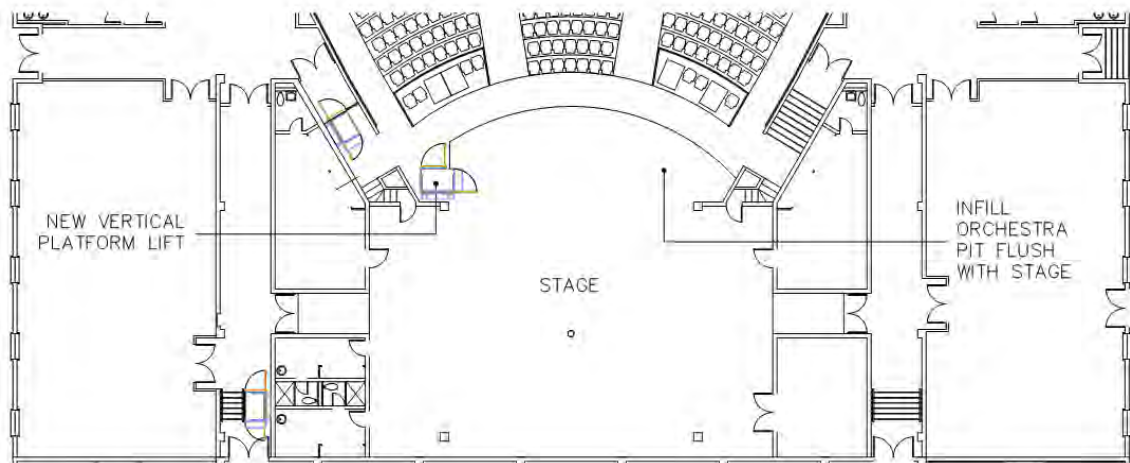

Figure 7
- Infill orchestra pit flush with stage and install vertical platform lift to provide access to stage from seating area as shown in Figure 7